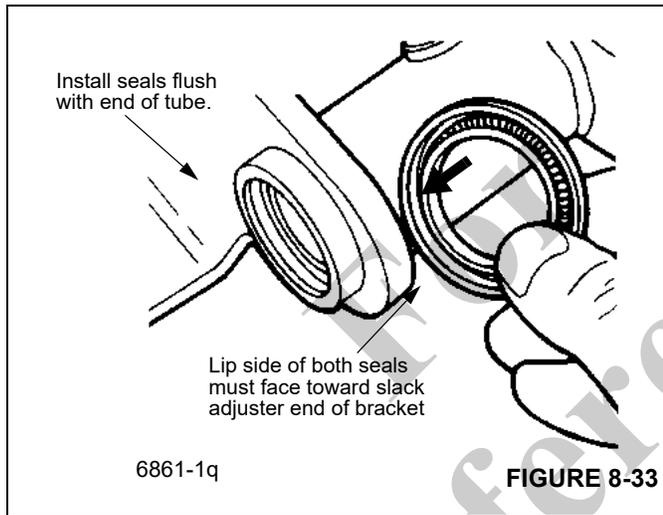

FIGURE 8-33
5. Install new grease seals with a piloted driver so the seals are flush with the end of the air chamber bracket tube (Figure 8-33).